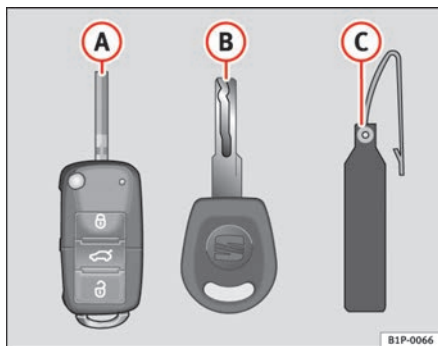

Fig. 62 Set of keys
- one remote control key ⇒ fig. 62 (A) with folding key bit,
- a key without remote control (B),
- one plastic key tab (C) with the key number.
Duplicate keys are only issued with the key number on the key tab ⇒ fig. 62